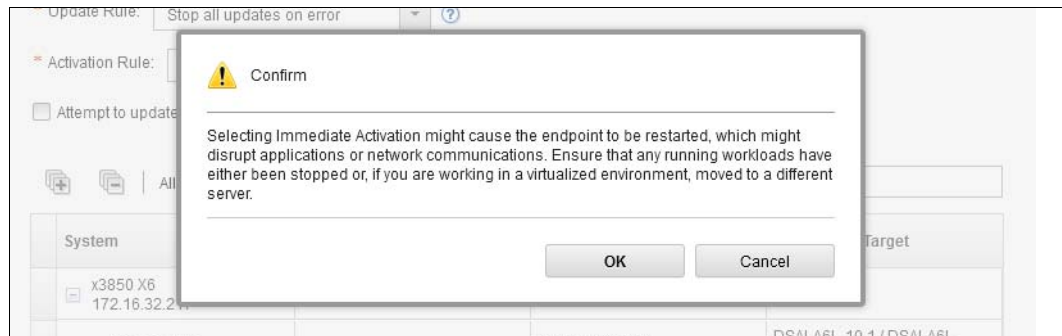

Figure 7-20 Start flashing confirmation
- To start flashing, click **Perform Update**. When the Immediate activation option is chosen, you must confirm the operation by clicking **OK**, as shown in Figure 7-20.